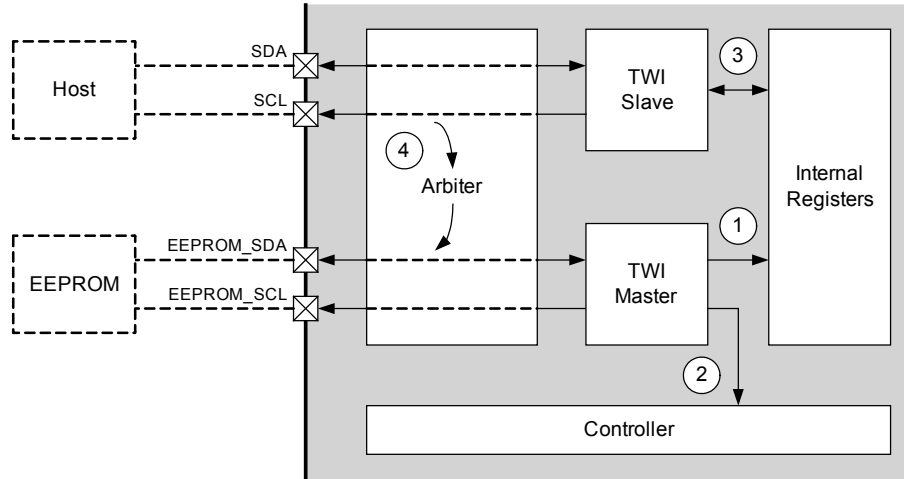

Figure 18 - Serial interfaces to internal registers
- If the register is implemented in EEPROM only (addresses 00h to BFh) then the transaction is forwarded to the EEPROM via path 4 in figure 18. There is a direct combinational logic path between the slave and master interfaces which makes the PHY2078 transparent when transactions from the host are forwarded to the EEPROM.